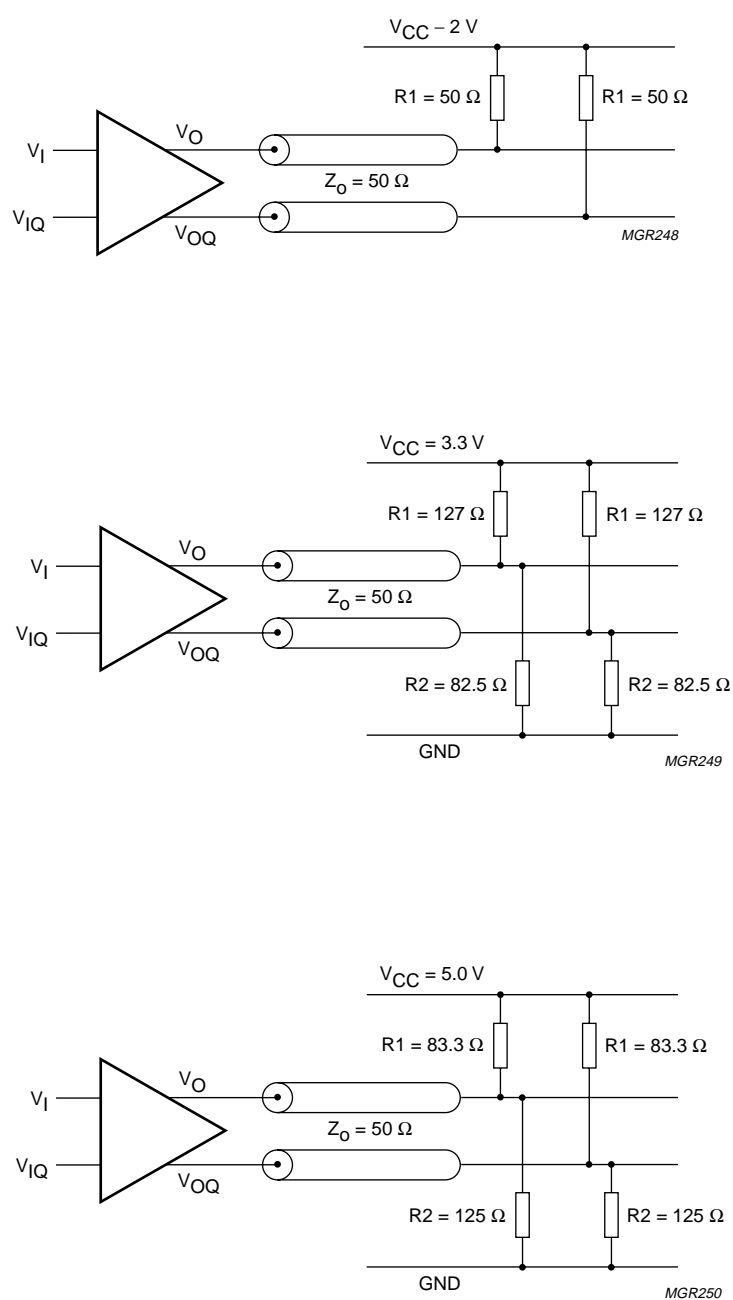

Fig.9 PECL output termination schemes.
Some PECL termination schemes are given in Fig.9.
- R_L = 50 Ω connected to a level of V_{CC} – 2 V (see Fig.9).